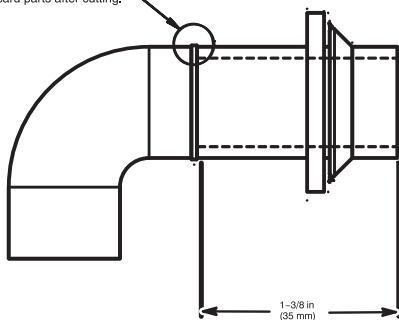

Fig. 12 – Modify Rubber Drain Elbow
3. The Z-pipe is connected to the condensate trap and the outside of the furnace by modifying the formed rubber drain elbow as shown in Fig. 12.
4. Remove the formed grommet from the rubber drain elbow by cutting the elbow along the vertical line located about 1-3/8 in. (35 mm) away from the formed grommet. See Fig. 12. **DO NOT DISCARD THE FORMED GROMMET OR THE RUBBER ELBOW.** Both of these pieces will be used.